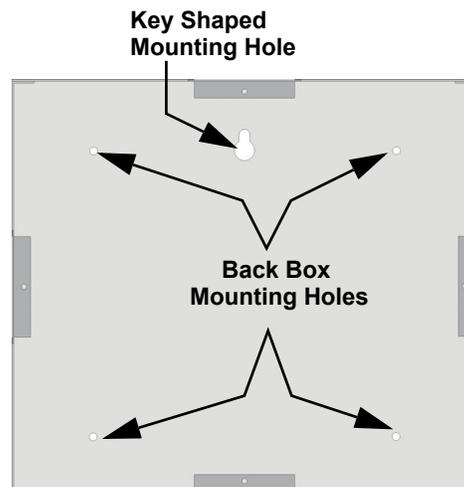

Figure 4.25 Back Box Surface Mount Holes
- To properly mount the back box, insert a single screw into the key shaped mounting hole. Do not tighten all the way. See Figure 4.25.